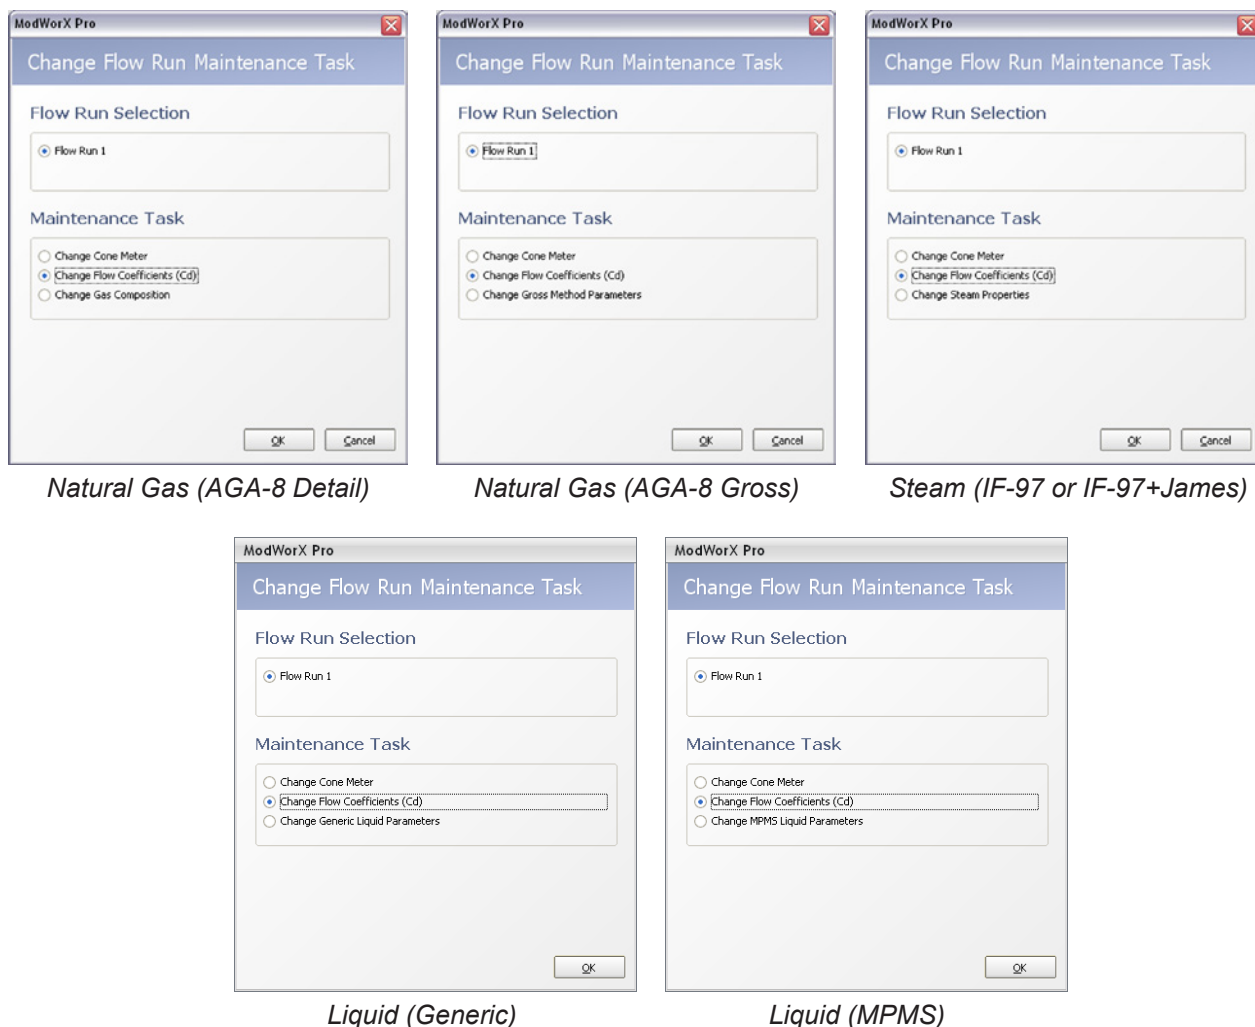

Figure 10.4
1. If Change Cone Meter is not displayed in the Maintenance Task field at the top of the Maintain Flow Run screen, click on **Change Task**. The Change Flow Run Maintenance Task dialog will appear (Figure 10.4). The selections available on this screen will vary, depending on the fluid property calculation method selected, as shown below.